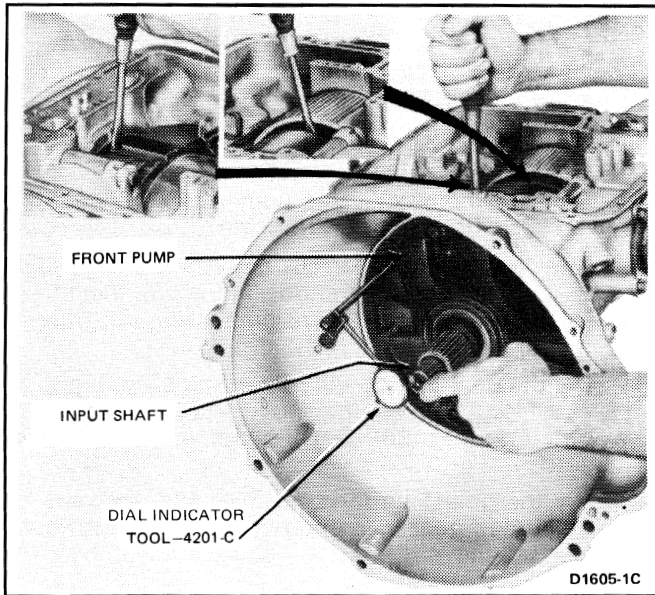

FIG. 18 Checking Gear Train End Play
4. Attach a dial indicator TOOL-4201-C or equivalent to the front pump as shown in Fig. 18. Install Tool T61L-7657-B in the extension housing to center the output shaft.
5. Pry the gear train to the rear of the case and at the same time, press the input shaft inward until it bottoms, (Fig. 18). Set the dial indicator to read zero.
6. Pry the gear train forward, (Fig. 18), and note the amount of gear train end play on the dial indicator. Record the end play to facilitate assembling the